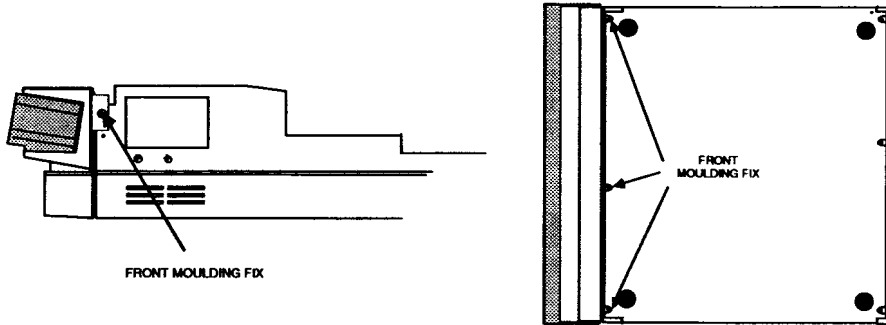

Fig. 2 - Removing the front moulding assembly
1. Remove the two screws securing the front moulding assembly at each side. Stand the unit on one side and remove the three screws securing the front moulding assembly to the base metalwork (see Fig. 2).